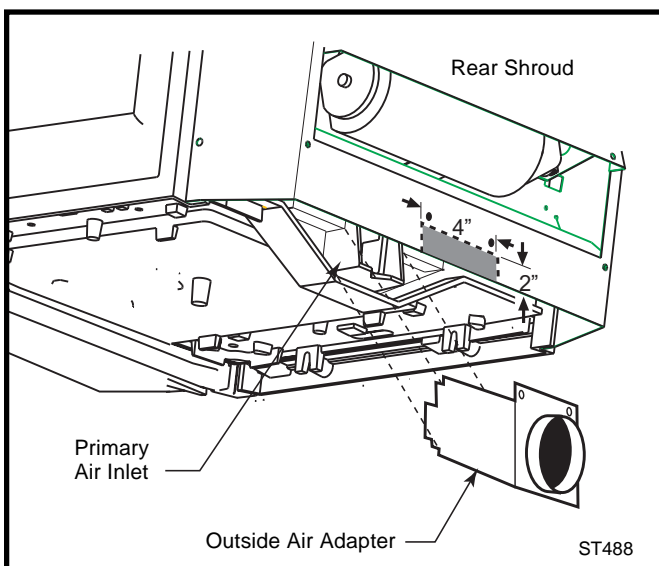

Fig. 24 To allow clearance for the Outside Air Adapter, bend or remove the Rear Shroud panel area as indicated.
Step 1. To accommodate the Outside Air Adapter, a small panel must first be removed from the bottom edge of the Rear Shroud. Use one of the following methods, depending on the characteristics of the shroud on your stove. (Fig. 24)
Step 2. Engage the Adapter against the Air Inlet of the stove so that it rests on the lip of Back Plate as shown in Figure 24.
Step 3. Use the two sheet metal screws provided in the kit to attach the Adapter to the Rear Shroud at the existing holes. (Fig. 24)